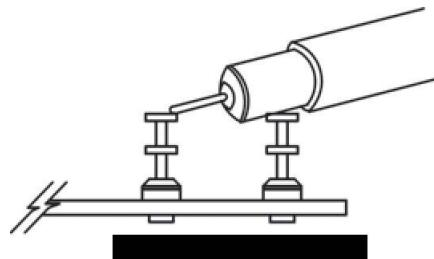

Figure 2. Measuring Input or Output Ripple
**NOTE.** When measuring the input or output voltage ripple, care must be taken to avoid a long ground lead on the oscilloscope probe. Measure the input or output voltage ripple by touching the probe tip directly across the terminals of the input or output capacitors. See Figure 2 for proper scope probe technique.